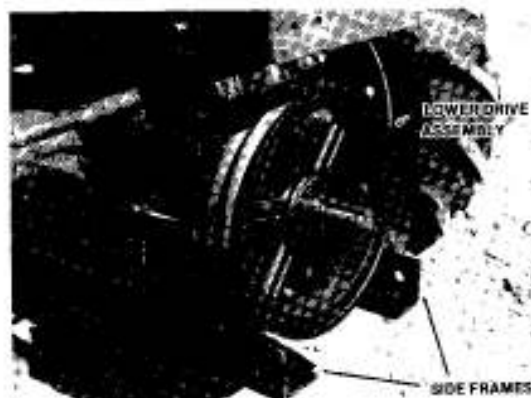

FIG. 4
- (c) Mount the right and left hand side frames loosely using three, 10 mm x 25 mm capscrews per side. (See fig. 4). Slide the lower drive assembly into place and secure with four 3/8 - 16 x 1" bolts lockwashers and nuts.